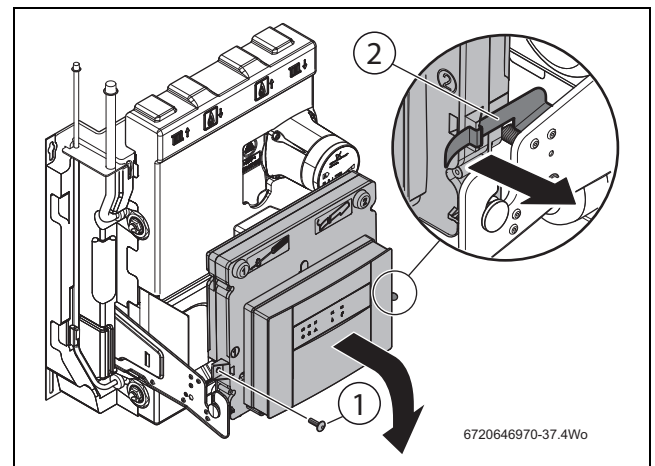

Fig. 54 Tilting the control unit forward
- ▶ Undo the retainer screw and lower the control panel. (Fig 54, Page 49)